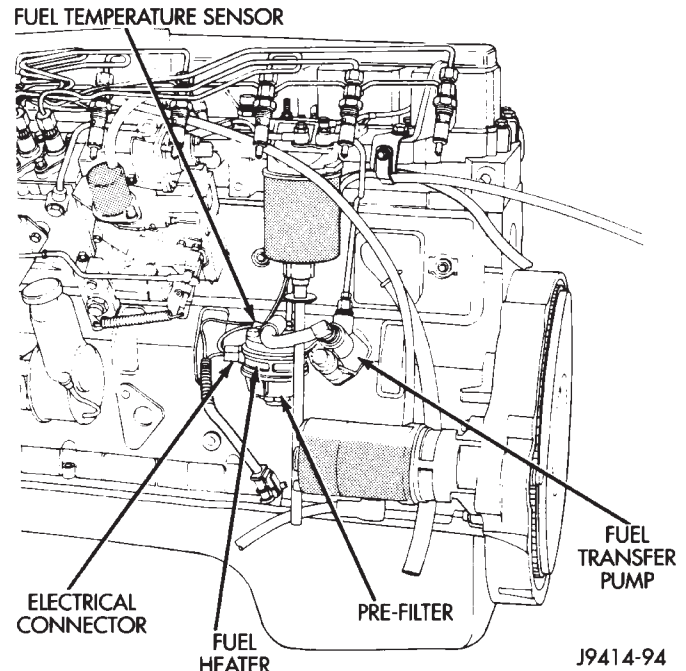

Fig. 47 Fuel/Water Separator Filter
- (7) Remove the fuel lines and injector nozzles as an assembly (refer to Group 14, Fuel System).
- (8) Remove the valve covers.
- (9) Remove the rocker levers and push rods.
- (10) Remove the fuel filter/water separator (Fig. 47). Refer to Group 14, Fuel System, for the proper procedures. Remove the remote fuel filter/water separator head.